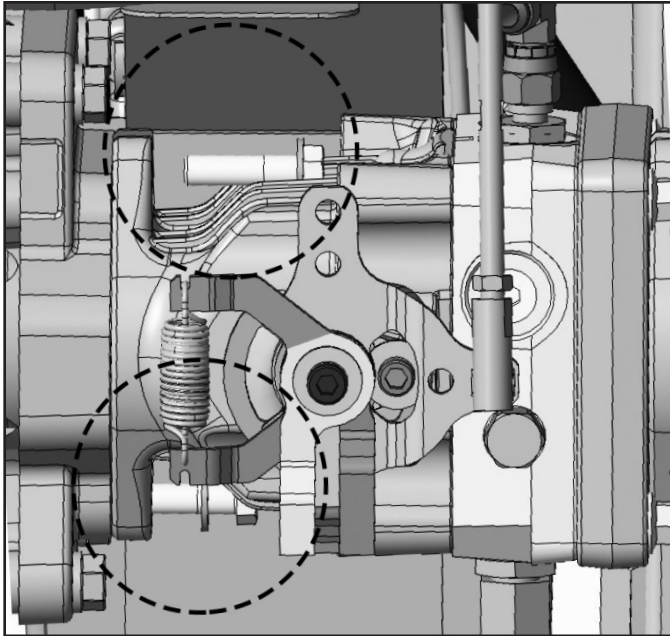

Figure 48: Pump mount bolts
3. Loosen and remove 2 pump mount flange bolts as shown in **Figure 48**.